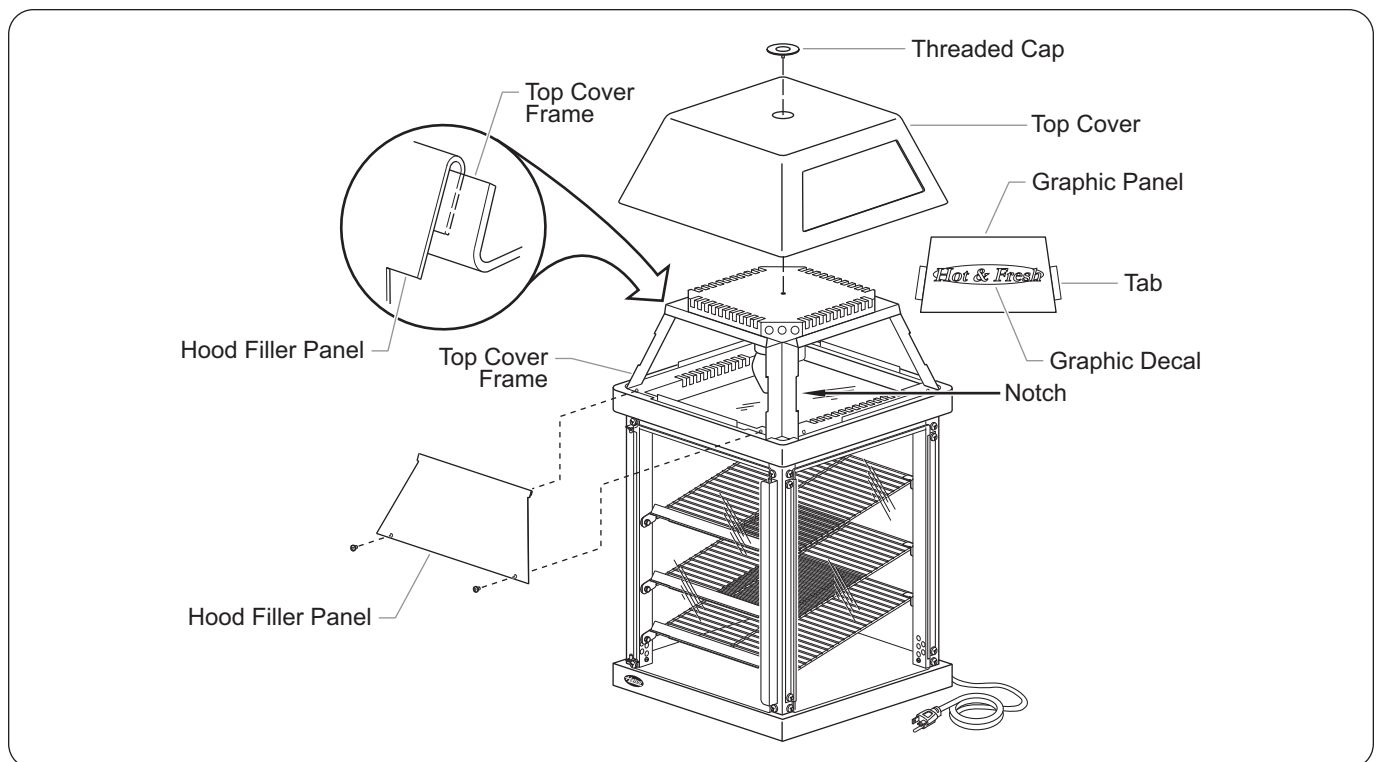

Figure 10. Merchandising Display Sign
2. Unscrew and remove the threaded cap from the top cover (see Figure 10).
6. Install the graphic panel with the tabs on the panel resting in the corner notches of the top cover frame (see Figure 10).
6. Install the hood filler panel onto the side where the graphic panel was originally located. Make sure the top lip of the hood filler panel fits over the edge of the top cover frame and the two screws are installed (see Figure 10).